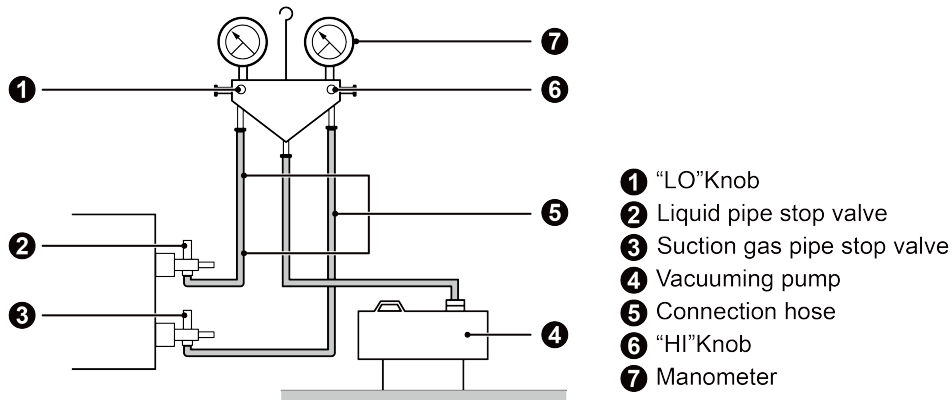

Fig.4.5.1
- (1) Outdoor unit has been charged with refrigerant before delivery. Field-installed connection pipe needs to be charged with additional refrigerant.
- (2) Confirm whether outdoor liquid and gas valves are closed.
- (3) Use vacuum pump to withdraw the air inside indoor unit and connection pipe from the outdoor valve, as shown in Fig.4.5.1 below.